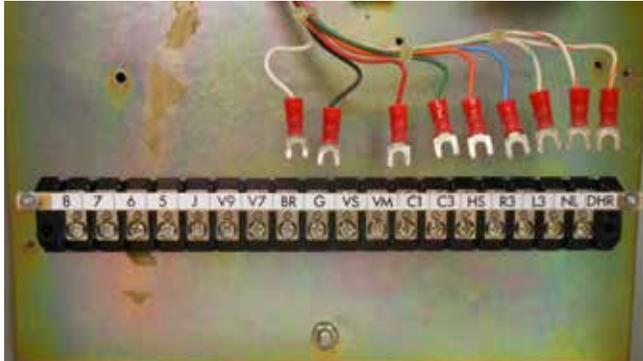

Figure 3. 18-position terminal board placement.
9. Remove the adhesive backing from the new terminal board and press it firmly in place. Locate the new board at the same height as the old board and center on the back panel. See Figure 3.